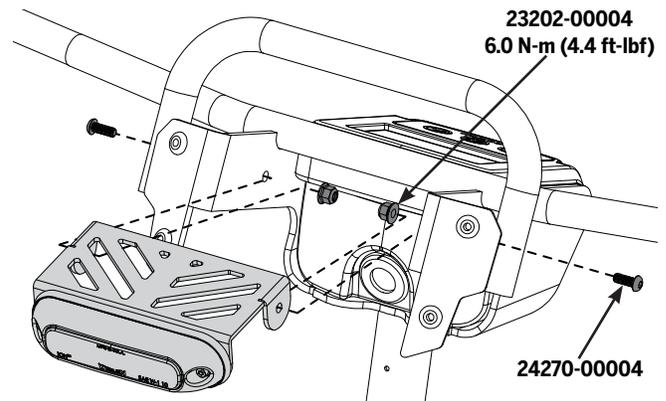

Figure 46: Headlight Bracket
2. Using a 4 mm hex wrench and a 10 mm socket wrench, loosen the Headlight Bracket fasteners as shown in **Figure 46**. Loosen just enough to adjust the headlight angle.